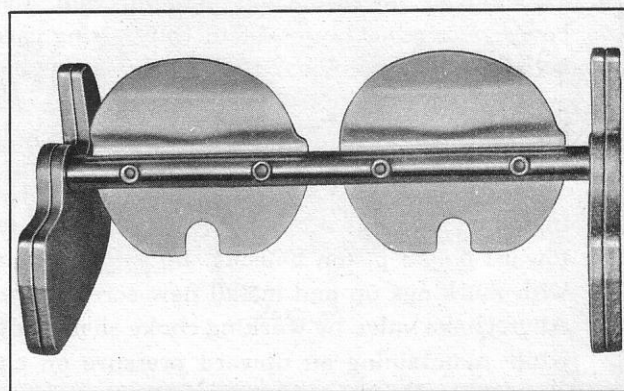
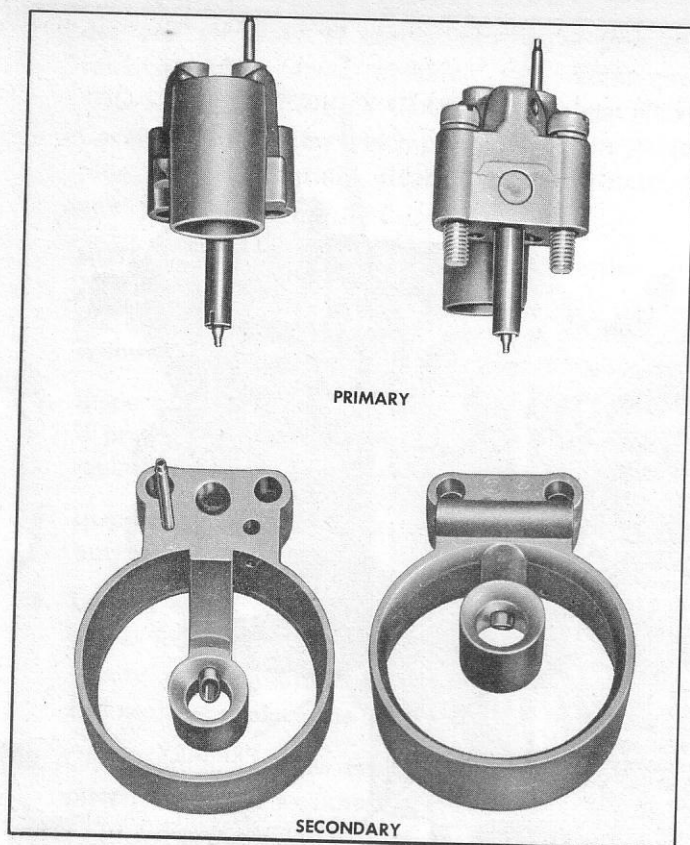

Fig. 113—Auxiliary Valve Assembly
Fig. 114—Venturi Identification
7. Install auxiliary valve assembly with screw heads down (fig. 113). Then install secondary and primary venturi assemblies, using new gaskets (fig. 114).